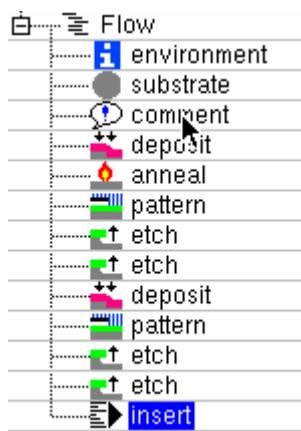
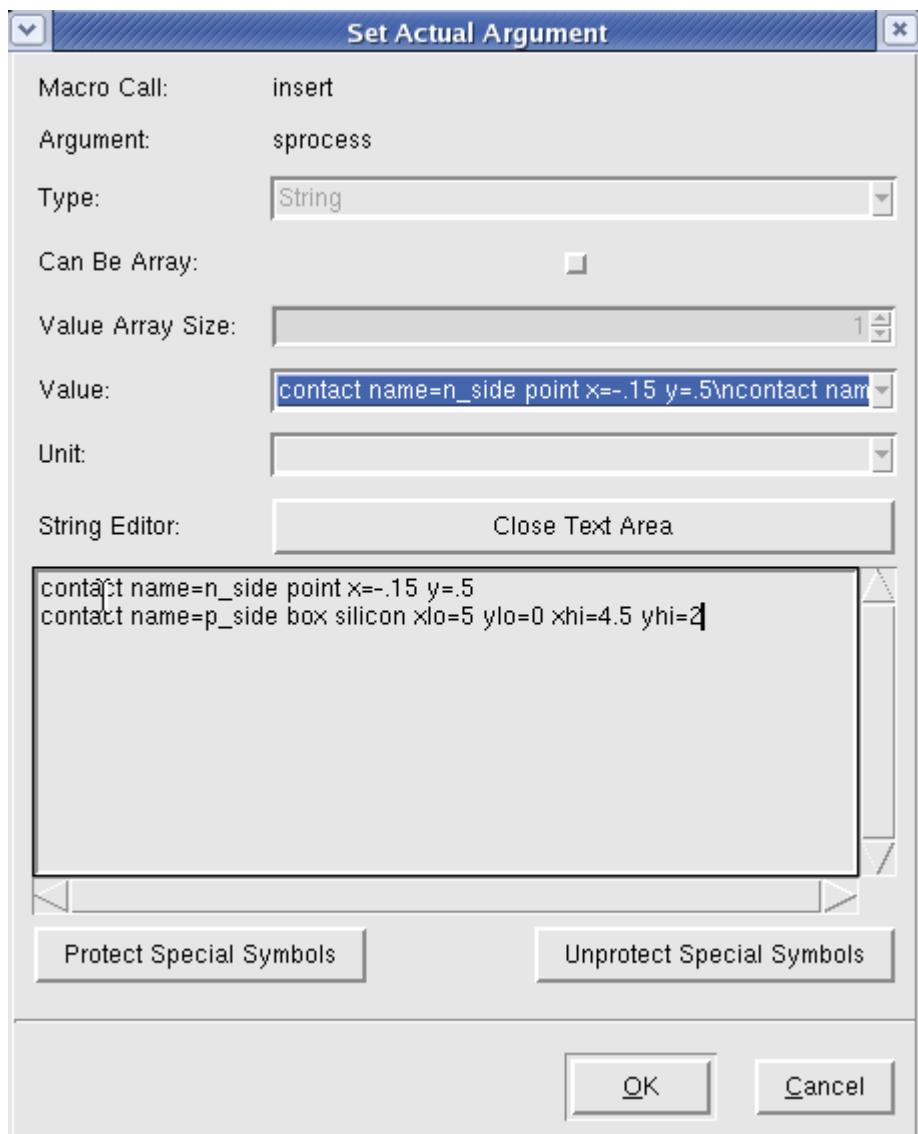

Figure 98: adding an insert macro call.
Figure 99: Setting the insert macro call for contacts.
26. To make electrical contacts, add and insert macro call (Figure 98), double click on sprocess and open up the text area and fill in exactly as shown (Figure 99).